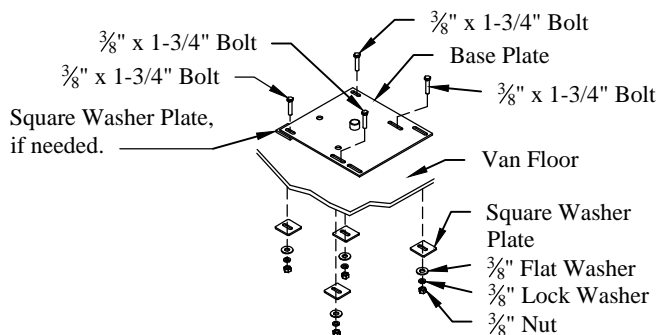

Figure 4: Base plate hardware.
- 9. Bolt** the base plate to the vehicle floor using the hardware provided (Figure 4). (See Note A)